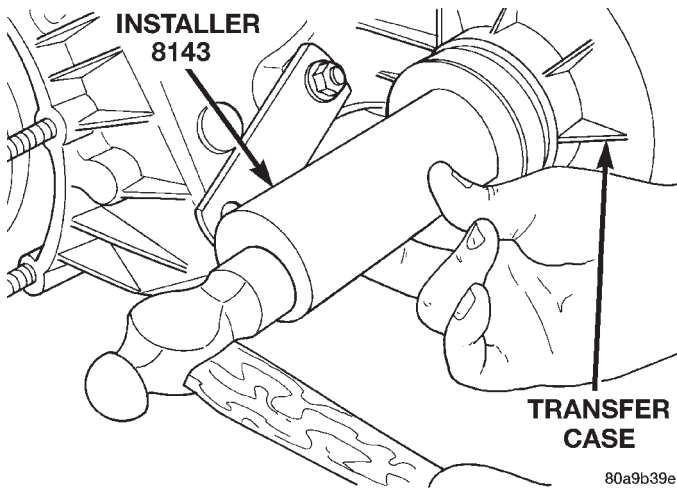

Fig. 7 Front Output Seal Installation
- (1) Install new front output seal in front case with Installer Tool 8143 as follows:
- (b) Start seal in bore with light taps from hammer (Fig. 7). Once seal is started, continue tapping seal into bore until installer tool seats against case.